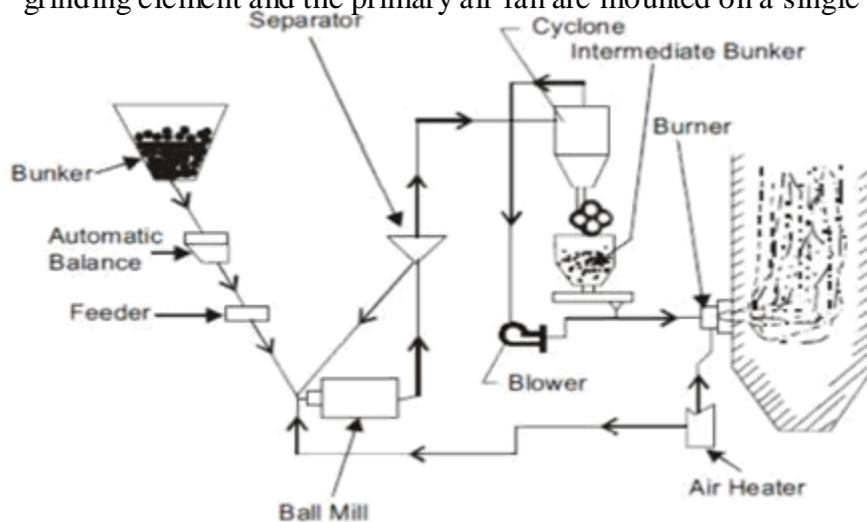

Fig 16.2 Hammer or impact mill
- ❖ Figure 16.2 below shows an impact mill in which pulverization is accomplished due to hammering action.